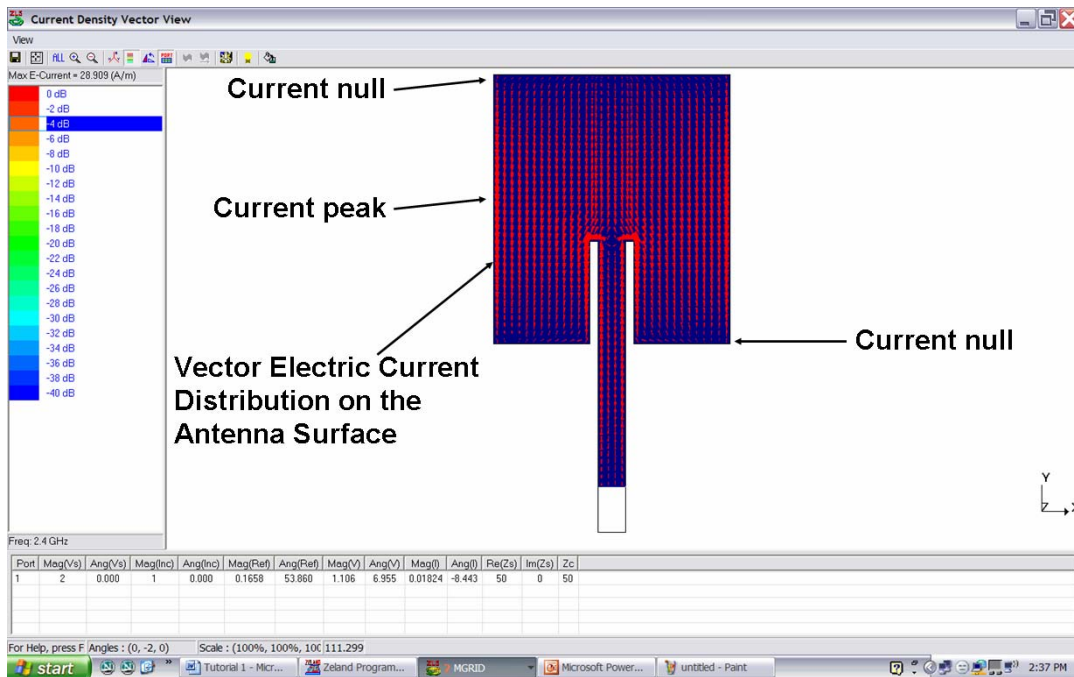

Figure 27.
- 32) In the process menu of the MGRID view window, go to process menu and select the Display current distribution item. Select the “Vector Current Distribution” item from the drop down menu on the top and click OK. The vector current distribution is now shown instead of the average current density. Because of the increased number of cells, the vectors are small and not easy to see. Select “View->Set Graph Parameters”. Change the “Vector Size” to 2 and click OK. Now you can more easily see the vector electric current distribution on the surface of the antenna. This current distribution is shown in Figure 27.